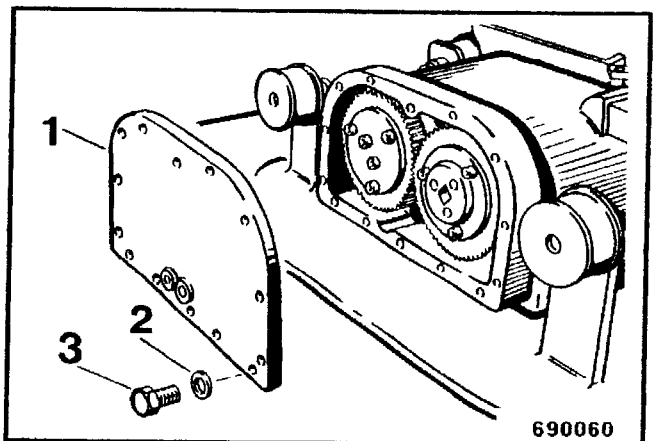

Fig. 2
- Unscrew the mounting screws 3 (Fig. 2) and remove the washers (2).
- Take the housing cover (1) off.